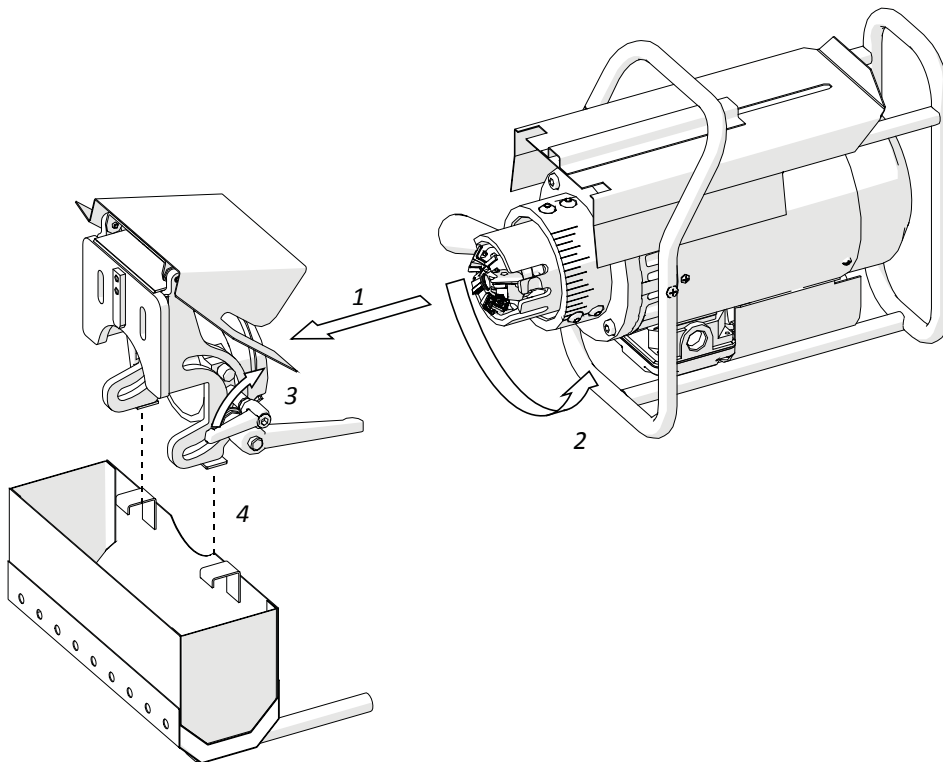
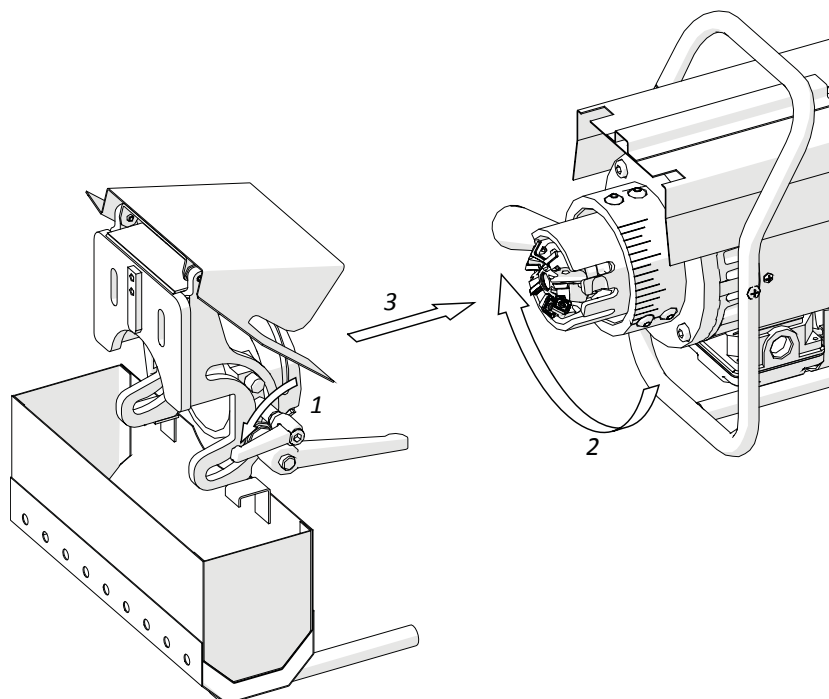
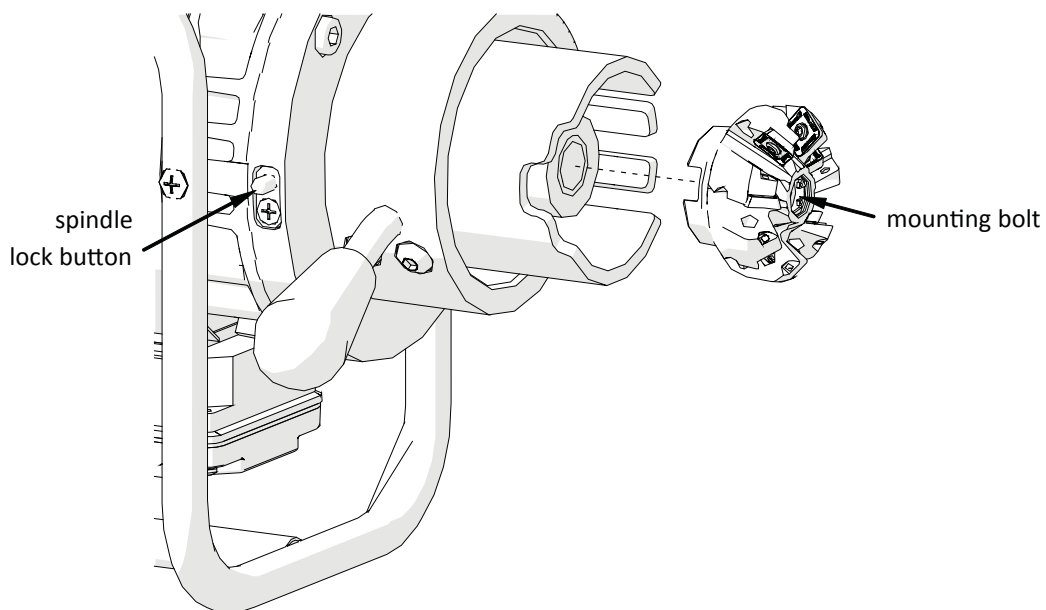

Figure.4. Method of mounting milling unit
Figure.7. Method of dismantling milling unit
Figure.9. Method of dismounting milling head
Connect the milling unit with the bevel depth adjusting lever in utmost left position as in Figure 4 to the support (1), rotate the lever maximally counterclockwise (2), and lock the bevel depth lock lever (3). If the plate is to be machined at the positive angle (from the top), attach the chips container to the brackets (4).
Unplug the power cord from power socket and remove the plug from the supply socket for milling unit. Dismount the milling unit in the manner shown in Figure 7, press and hold the spindle lock button, and use 5 mm Allen key to loosen the bolt (Figure 9). Then, release the lock button and remove the head. Mount in the reverse order.
Unplug the power cord from power socket, remove the plug from the supply socket for milling unit, and dismount the milling unit as shown in Figure 7. Then, unscrew the nuts using 13 mm flat key (1, Figure 10), and take out the mounted support (2). Before you install the support for machining plates at the negative angle (from the bottom), loosen its two screws using 4 mm Allen key and set the indicator to the value of the plate thickness (3). Position the milling unit support on the screws (4), place the washers under the nuts (1) in the order shown in Figure 10, and tighten the nuts afterward. Mount the milling unit in the manner shown in Figure 4.